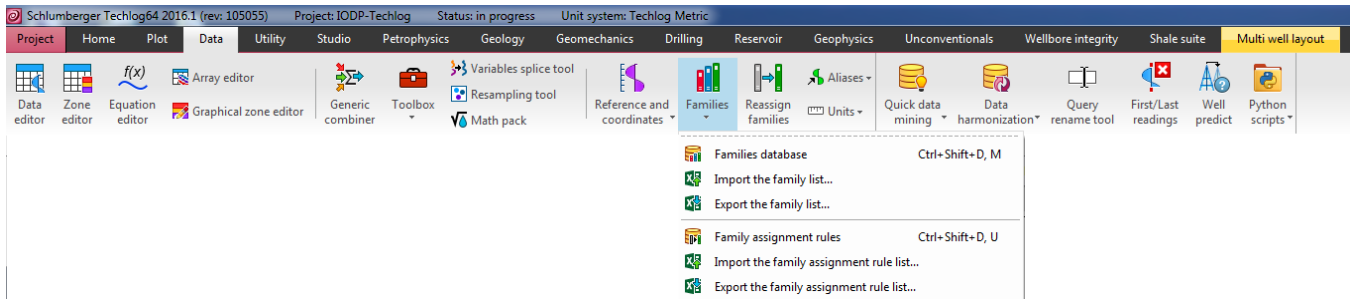

Figure 10. Data menu and toolbar, showing the dropdown list for data Families.
1. Click on the Data menu tab (Fig. 10)